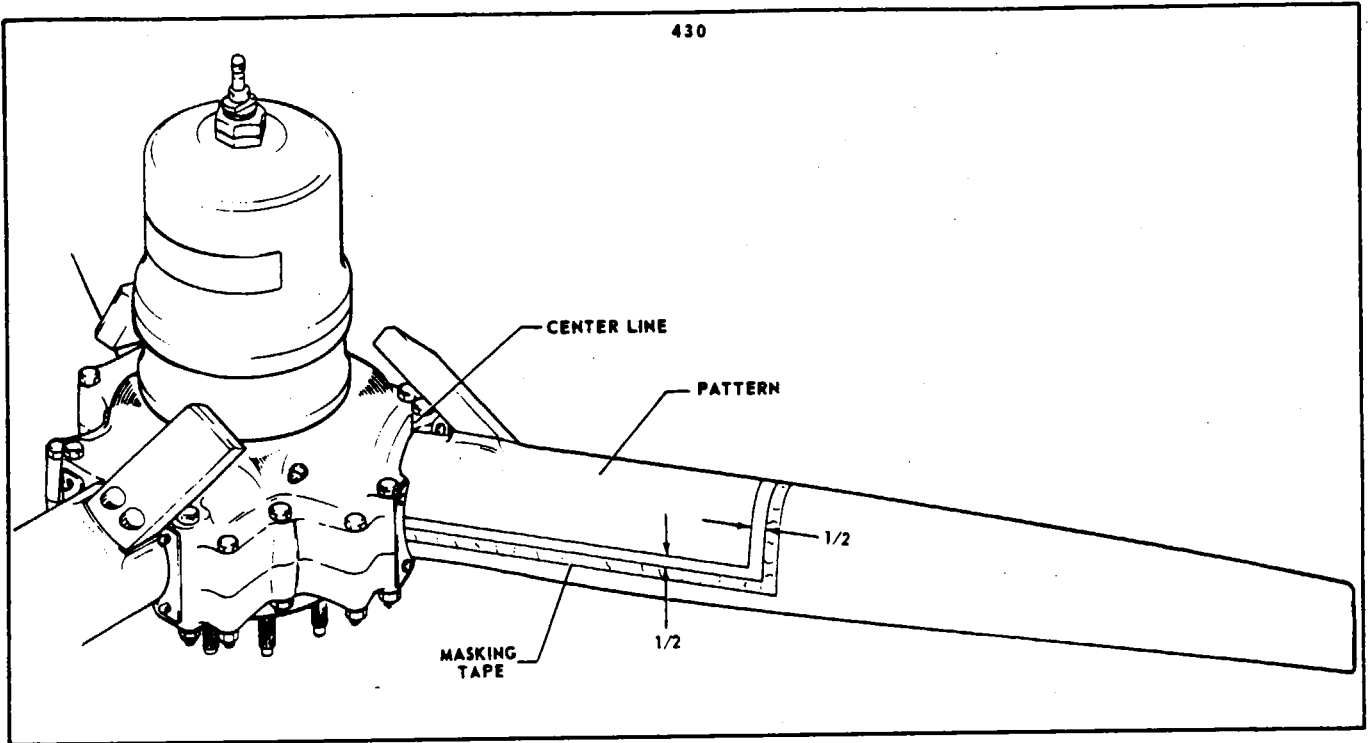
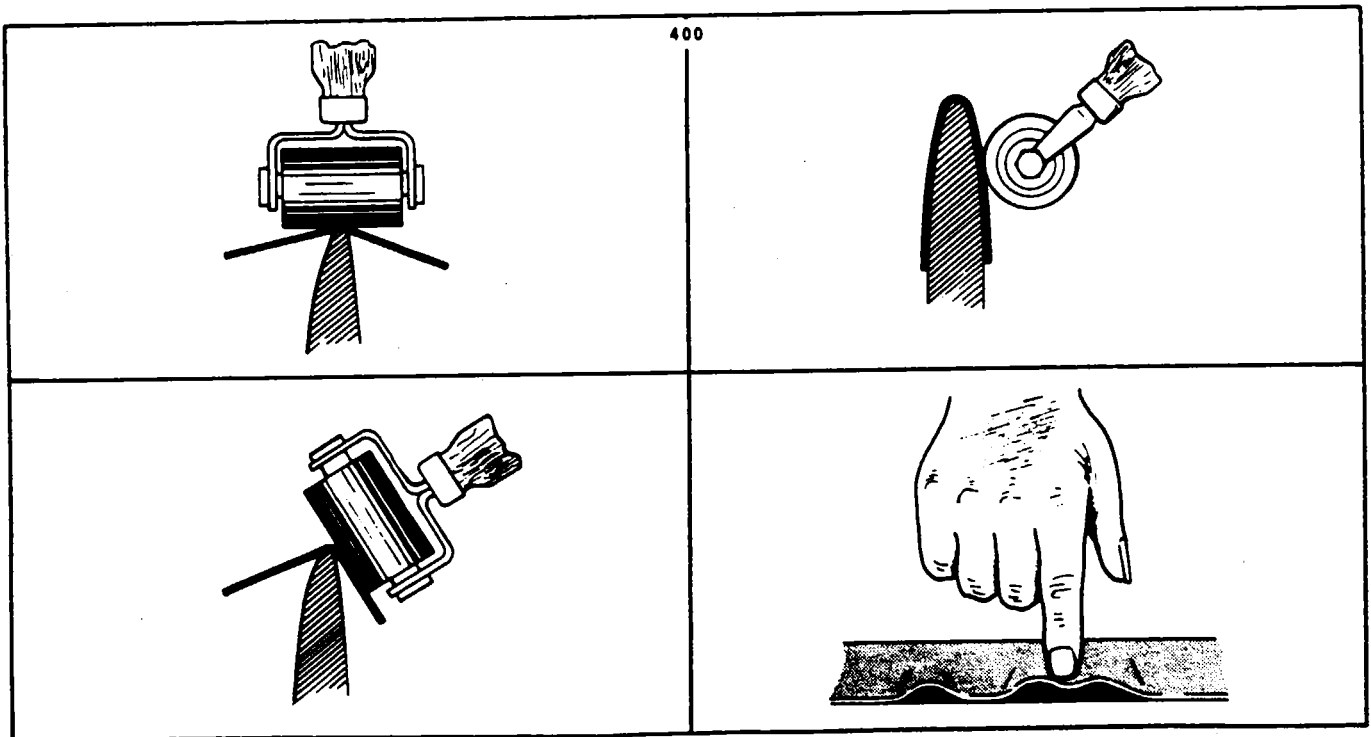

Figure 14-15. Installation of Deicer Boots
Figure 14-16. Wrinkled Deicers
- a. Mark and cut from masking tape a pattern the size of the propeller deicer including the first inch of the lead strap. (Refer to Figure 14-15.)
1. Position the deicer on the propeller leading edge, using centerlines starting from the hub. (Refer to Figure 14-15.) Make sure that the strap will fall in the position previously marked. Working towards the tip, tack the deicer centerline to the leading edge of the propeller blade. Use tackifying solvent as necessary. If the deicer is allowed to get off course, pull up with a quick motion and remove deicer. Recement per paragraph 14-42, c and d if necessary before proceeding. Roll firmly along the centerline with a rubber roller, as shown in Figure 14-16.
14-45. WRINKLED DEICERS. (Refer to Figure 14-16.) If edge of deicer is found wrinkled or loose, try recementing. Use MEK or Toluol to loosen the bond for an additional 1/4 inch beyond the loose or wrinkled area. Apply one coat of EC1300L or EC1403 cement to the deicer and propeller bonding surfaces and allow to air dry for one hour. Then apply a second coat of EC1300L or EC1403 cement to both the deicer and bonding surface. Allow to dry. Retackify with MEK or Acetone and press with fingers to work out wrinkles or to secure loose edges. If material has stretched and will not cement flat, replace the deicer.